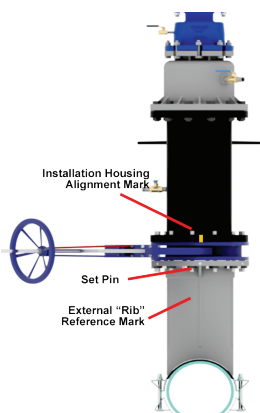

Figure 83
5.2.2 Align the insertion housing reference mark made in step 5.1.18 with the external "rib" cast into the valve body that is in line with the direction of the pipe (see Figure 83).